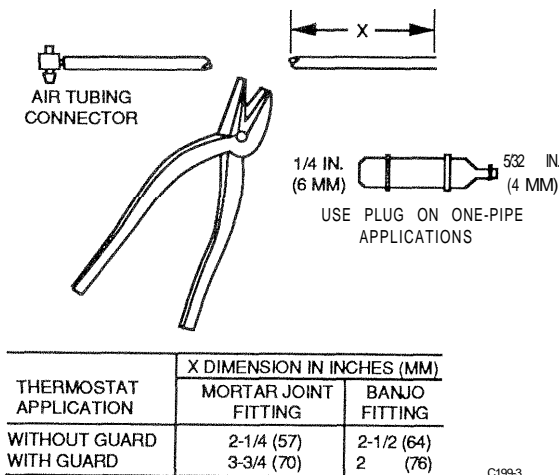

Fig. 7. Tubing Length.
4. If Heavy Duty Guard 14002430-001 is required, it must be ordered separately. When using the heavy duty guard, cut the tubing 1/2-in. (13 mm) longer than shown in Figure 7.
- Trim the tubing to suit the application (Fig. 7) and discard the air tubing connector ends.
Follow the procedures for vertical mounting on a mortar joint fitting. Note tubing length in Figure 7. For horizontal mounting, rotate ring 90 degrees (Fig. 12).
2. Cut the tubing (Fig. 7) and insert it into the proper outlets in the banjo fitting.